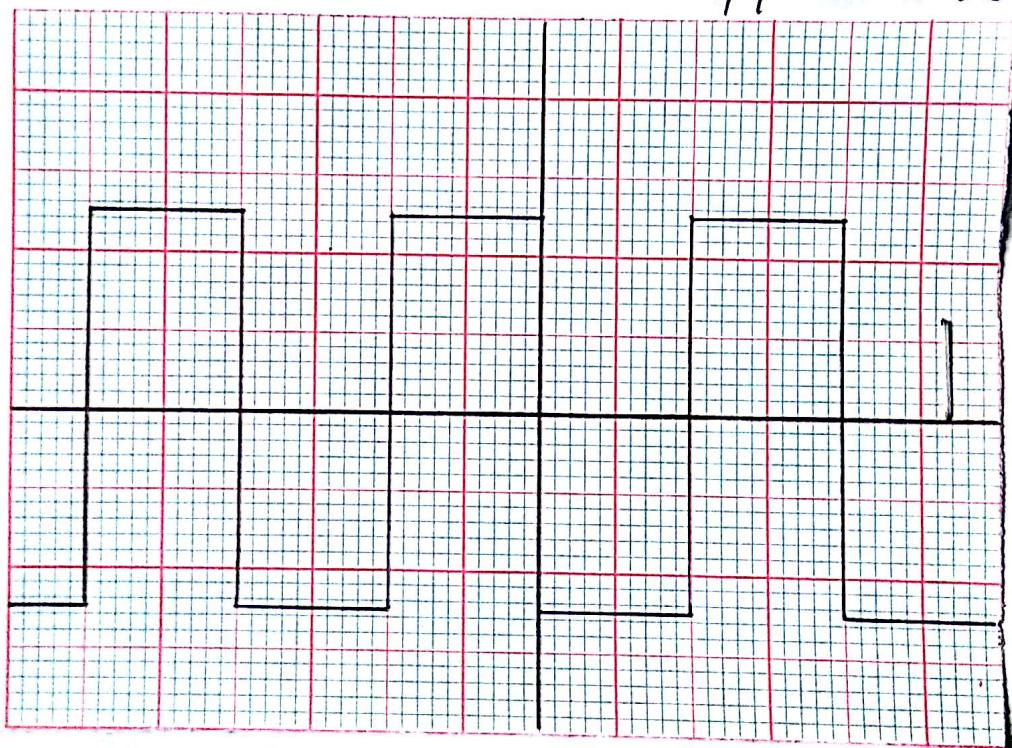

Fig.1: pulse parameter measurement
5. CH-1 was connected to input probe of oscilloscope to CLK terminal of SIGNAL SOURCE, the screen was appeared as Fig.1.